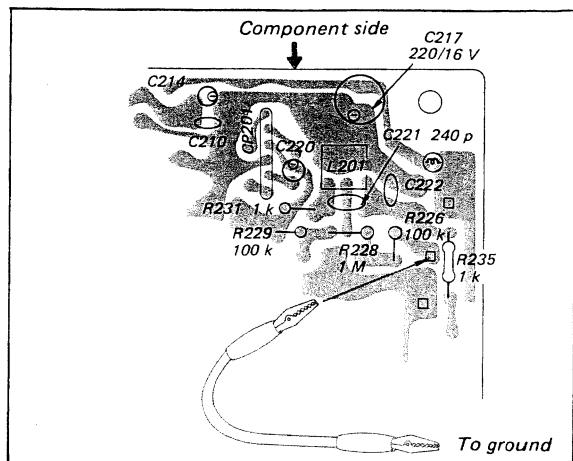

Fig. 3-2. Interruption of afc circuit
3. Short the test point of R226 (AFC circuit) on the a-m front-end/i-f amp/MPX board to ground as shown in Fig. 3-2.
1. Short the test point of R226 (AFC circuit) to ground as shown in Fig. 3-2.
2. Short the test point of R226 (AFC circuit) on the a-m front-end/i-f amp/MPX board to ground as shown in Fig. 3-2.